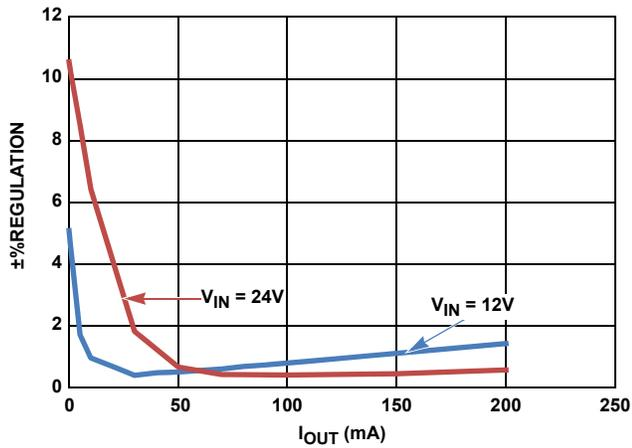
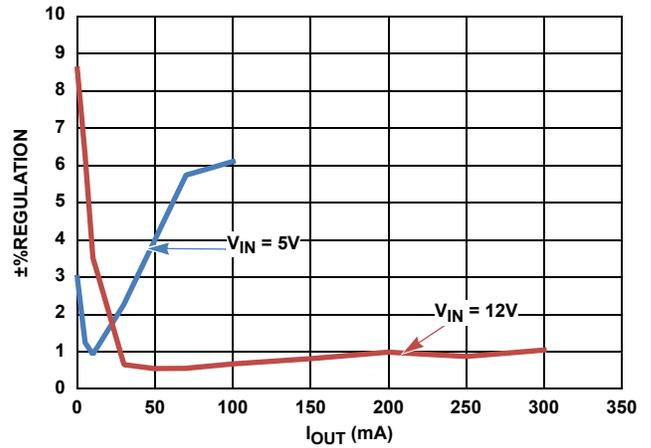

FIGURE 10. $V_{OUT} = 5V$, %REGULATION vs I_{OUT}
FIGURE 11. $V_{OUT} = 3.3V$, %REGULATION vs I_{OUT}
- Continuous output current up to 300mA (refer to Figures 10 and 11)
The curves in Figure 10 indicate the secondary output voltage regulation versus the load applied in the secondary output, without any load on the primary output for V_{OUT} = 5V, at different input voltages. The curves in Figure 11 indicate the secondary output voltage regulation versus the load applied in the secondary output, without any load on the primary output for V_{OUT} = 3.3V, at different input voltages.